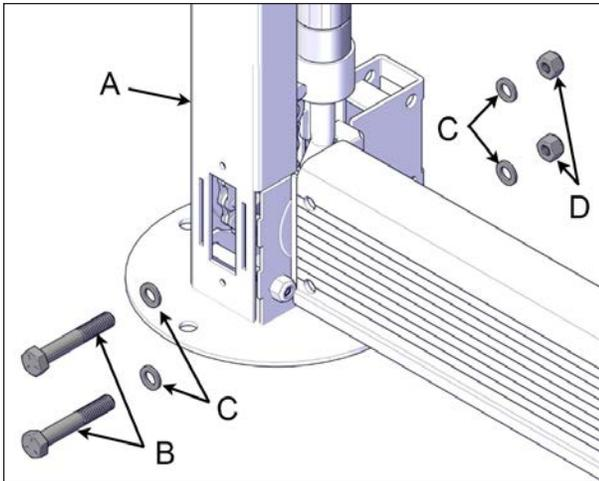

FIGURE 21: LONG U-FRAME INSTALLATION
10. Install the long aluminum U-frame over the left drive shaft and make sure it lines up with motor-side and non-motor-side jack assemblies. Fasten in place using two hexagonal 5/16"-18 x 2" screws, two 5/16"-18 nylon-insert lock nuts and four 5/16" plastic washers (2 per side), with the 1/2" (13 mm) socket wrench and spanner, see Figure 21.
The drive shaft may fall off during operation, and reassembling can be done faster when the bolts have not been fully tightened, see Figure 21.